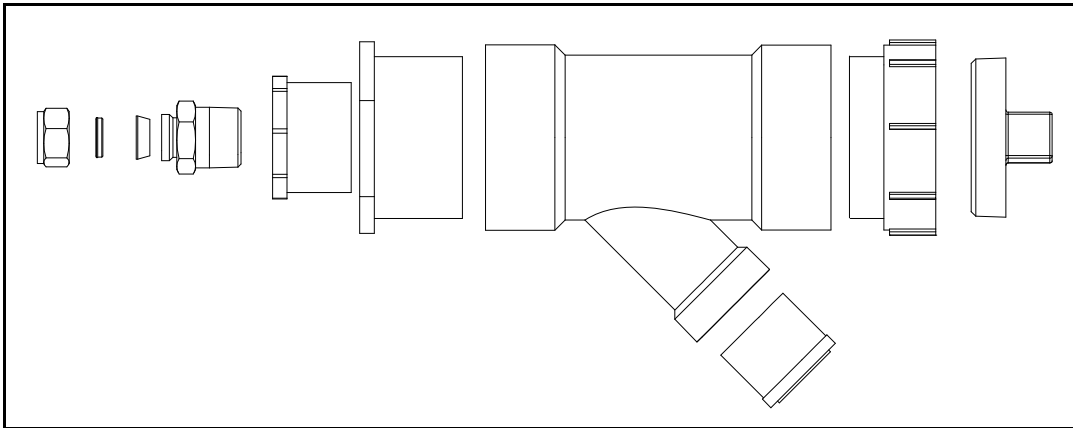

Figure C-5. Zero Flow calibration chamber — exploded view
- A Zero Flow calibration chamber. Kurz recommends the chamber specified in “Zero Flow Assembly Parts” on page C-6 and shown in Figure C-5 and Figure C-6.
Kurz recommends the chamber specified in “Zero Flow Assembly Parts” on page C-6 and shown in Figure C-5 and Figure C-6.
Table C-1 lists the parts used for building a Zero Flow chamber shown in Figure C-5.